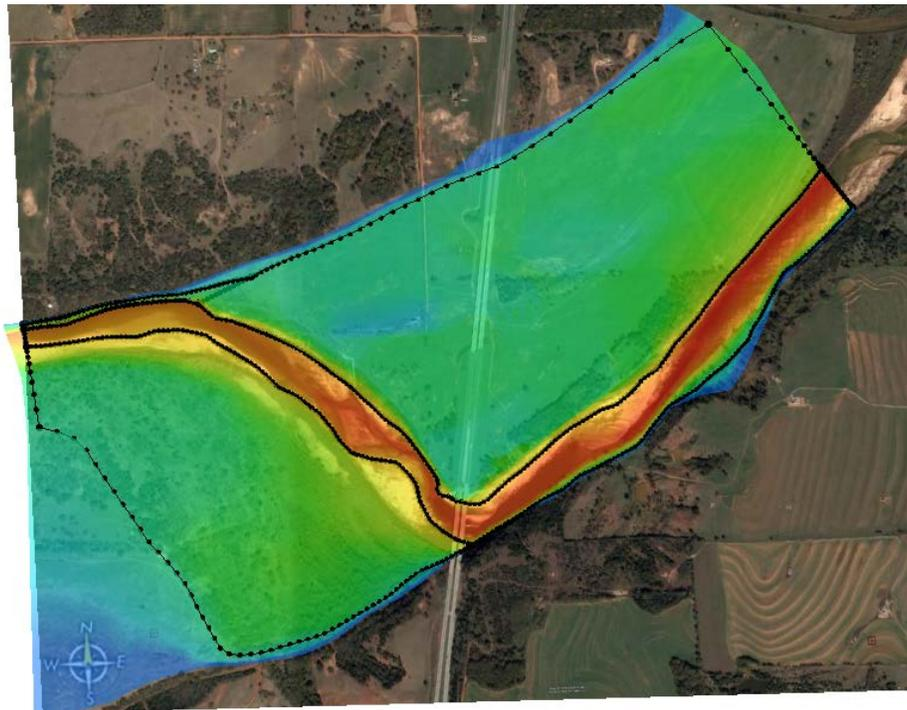

Figure 1 Conceptual Model Extents with Background Image
2. Select *File / Open* and open the file *AdH_Model.map*. Note that the imported coverage contains arcs delineating the model boundary as well as the outer river banks as shown in Figure 1.